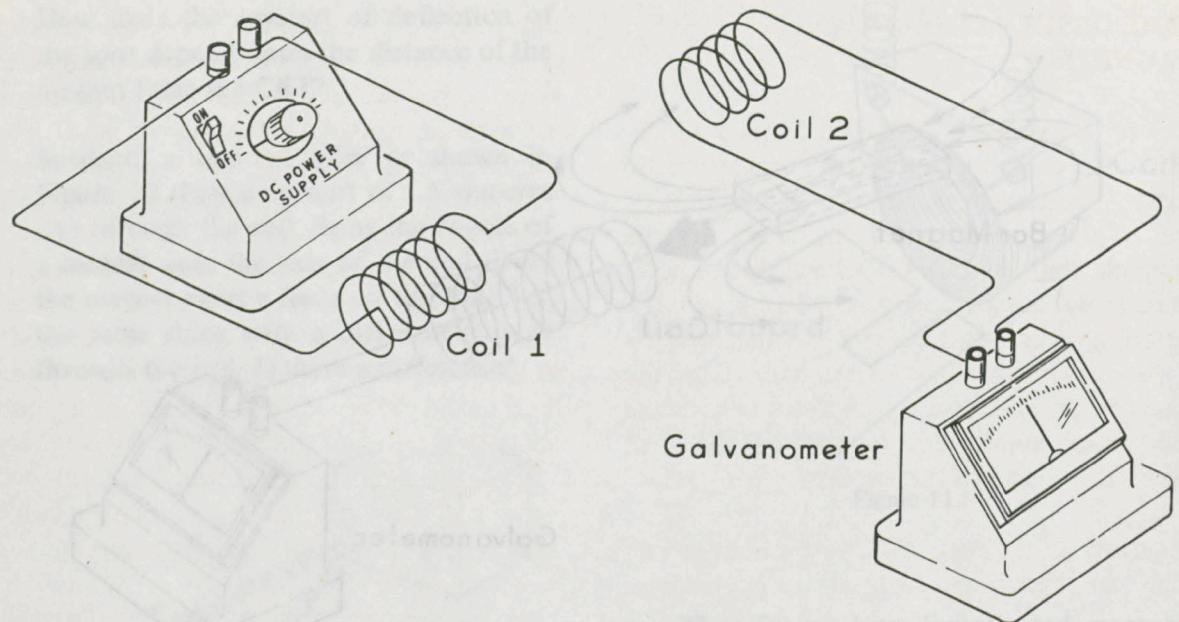

Figure 13.
- Place two coils so that their axes are in a line and the coils are as close together as possible, as shown in Figure 13. Turn on the switch to produce a current in coil 1. What happens to the galvanometer connected to coil 2?